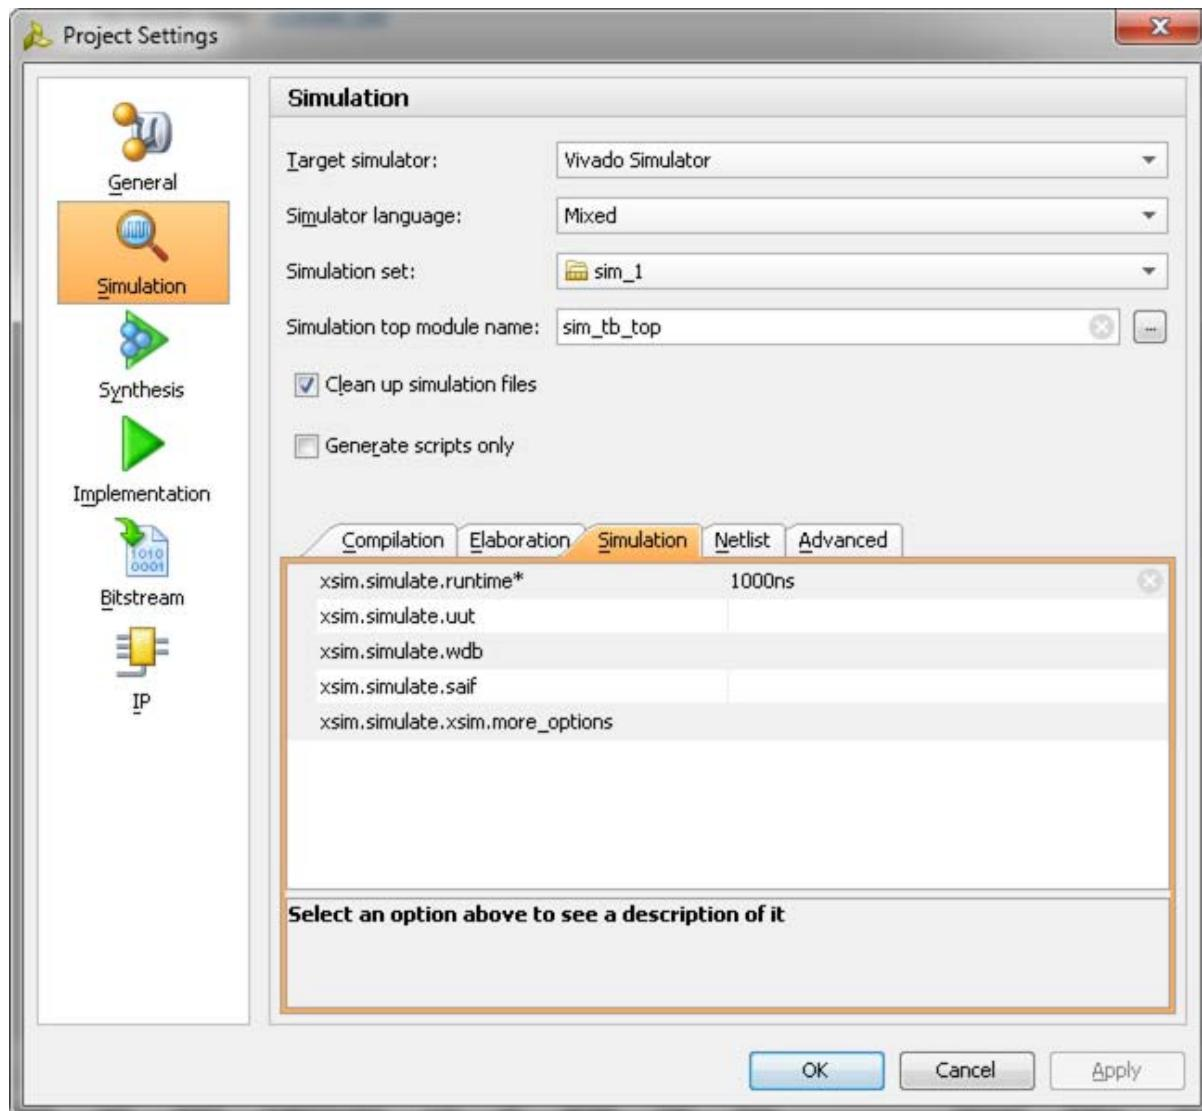

Figure 1-46: Simulation with Vivado Simulator
1. In the **Open IP Example Design** Vivado project, under **Flow Navigator**, select **Simulation Settings** (Figure 1-46).
2. Under the **Simulation** tab as shown in Figure 1-46, set the **xsim.simulate.runtime** as 1 ms (there are simulation RTL directives which stop the simulation after a certain period of time, which is less than 1 ms). Apply the settings and select **OK**.
- b. Under the **Simulation** tab, set the `modelsim.simulate.runtime` to 1 ms (there are simulation RTL directives which stop the simulation after certain period of time, which is less than 1 ms), set `modelsim.simulate.vsim.more_options` to `-novopt` as shown in Figure 1-46.